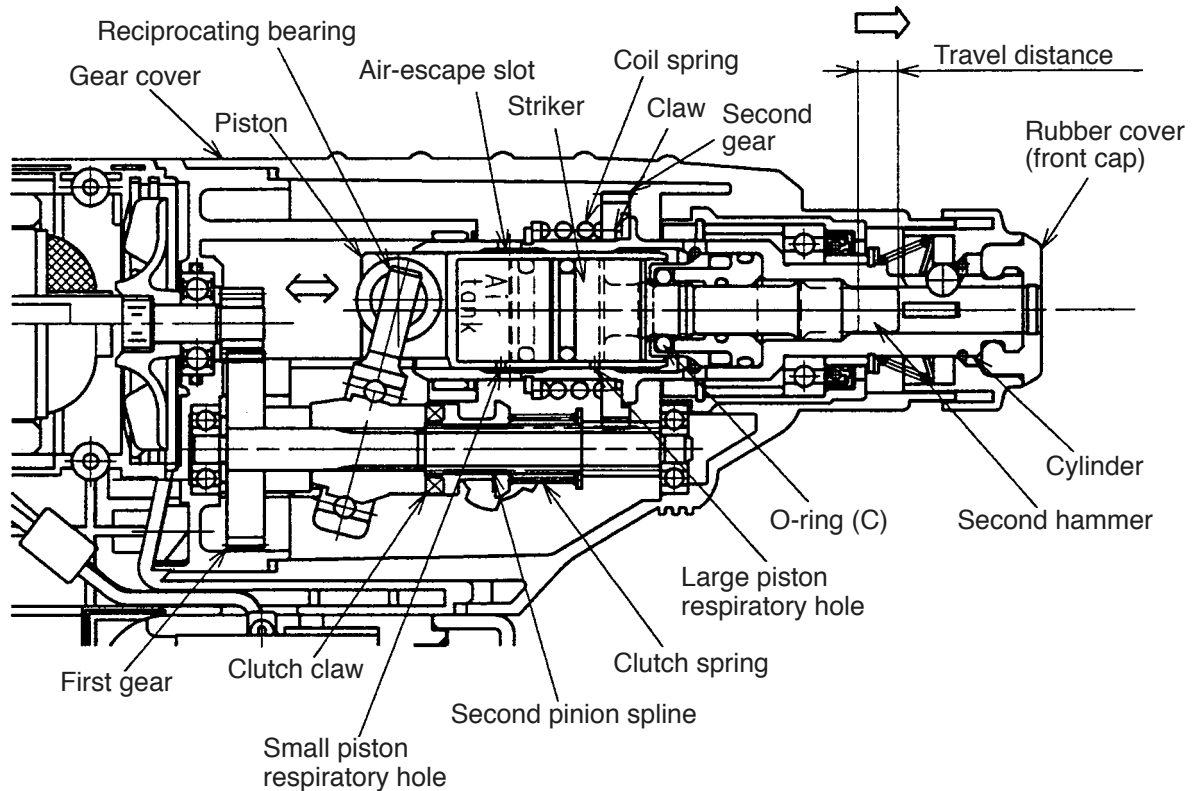

Fig. 6
The idle striking prevention mechanism in the Model DH 24DV is different from that of conventional hammer drills. When the drill bit is lifted from the concrete surface on completion of drilling, the second hammer moves to the position indicated by the continuous lines in Fig. 6, and the protruding (lip) portion at the tip of the striker is gripped by O-ring (C) mounted between the hammer holder and the damper holder. In this state, should the piston continue to move so that the small piston respiratory hole is blocked by the inner wall of the cylinder, the air in the air chamber will pass through the large piston respiratory hole and be released through the air-escape slot and large cylinder respiratory hole provided on the inner wall of the cylinder. Accordingly, there is no change in the air pressure within the air chamber, and movement of the striker (idle hammering operation) is prevented. The gripping force of O-ring (C) on the striker is so small in comparison with the conventional mouth system that practically no pressing force at all is required to restart the hammering operation.